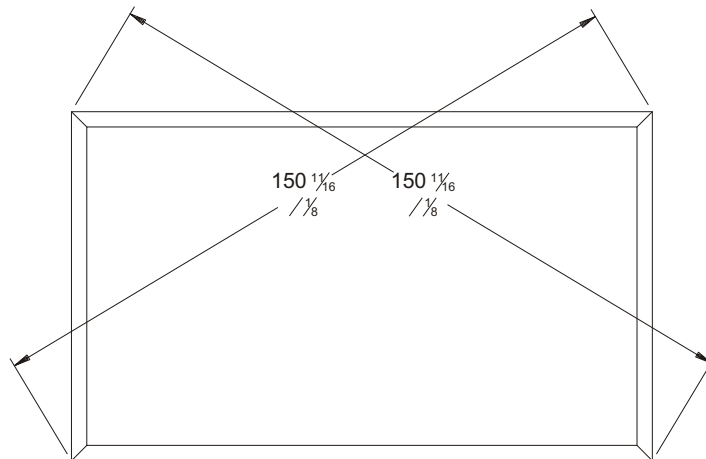

Figure 5
After the four corners and middle hinges are assembled; the curb should be checked to be sure it is in "square". Do this by measuring diagonally from each opposite corner. The two measurements should be the same for each direction as shown in Figure 5. Then take the splice bracket (G) and secure to outside of the middle hinges.